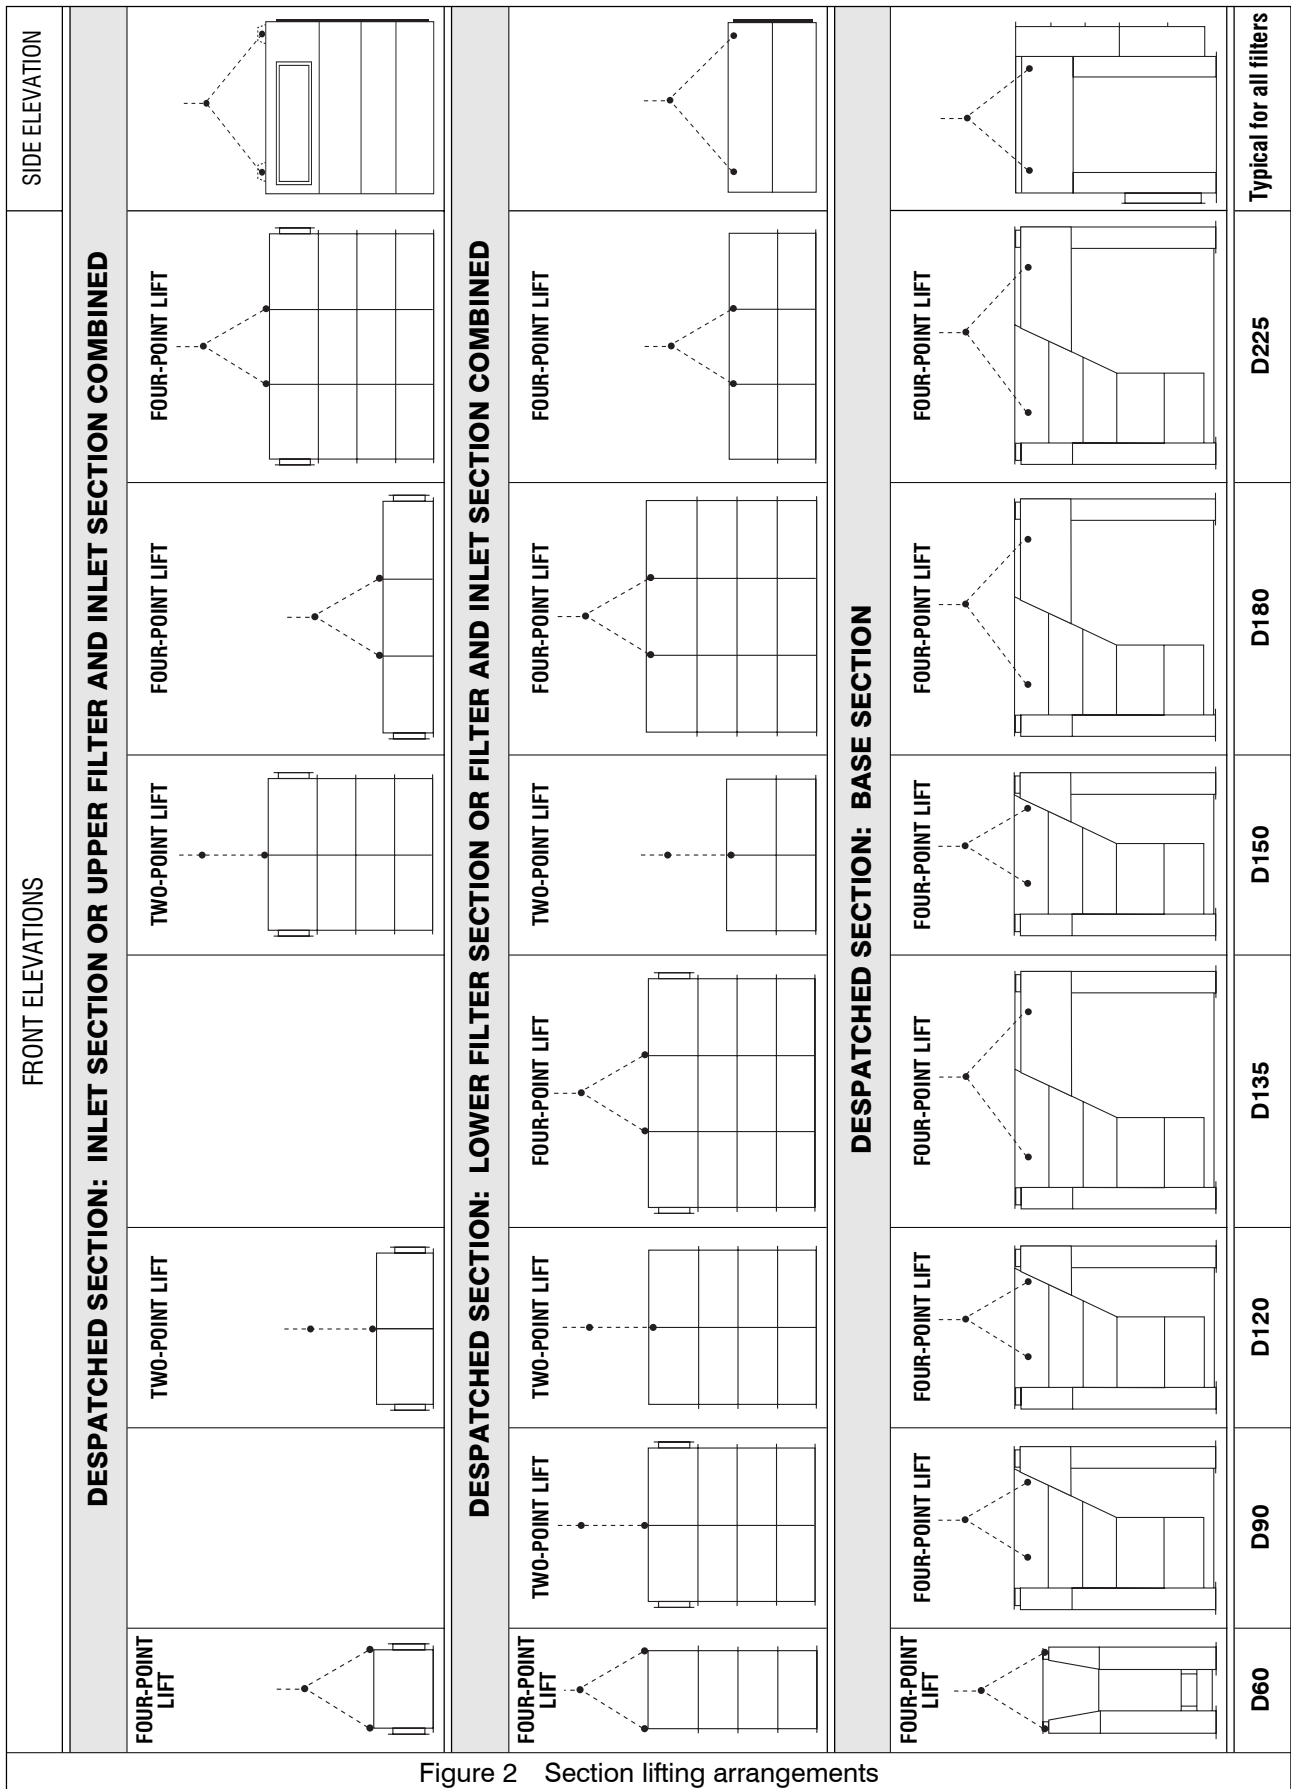

Figure 2 Section lifting arrangements
Each section should be lifted by using either a two-point or four-point lift depending on the individual section type involved (see Figs. 2, 3 and 4).
Sling the filter section only from the lifting lugs (N) provided. Use a four-point lift on D60, D135, D180 and D225 collectors and a two-point lift on D90, D120 and D150 collectors (see Figs 2, 3 and 4).